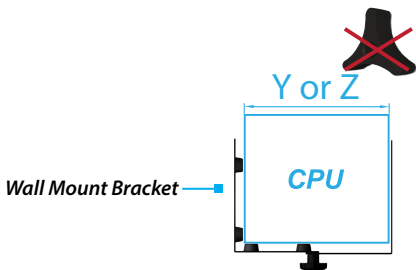

Figure 15
If installing the **CPU** along the **Length (Y)** or **Height (Z)**, the **Plastic Spacers** may not be used. Figure 15.